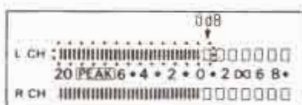
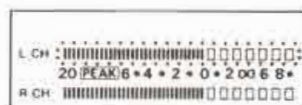

Fig. 21
Fig. 22
- Adjust VR302 so that the +1dB segment of the FL meter lights up with the input level of 0±0.4dB range of the standard input level (See fig. 21).
- Repeat twice between steps (5) and (6) above.
- Adjust ATT and check that all segments light up when an input signal level is increased to 10dB higher than the standard input level (See fig. 22).